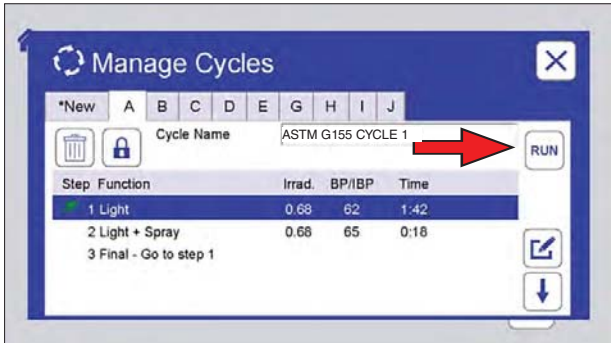
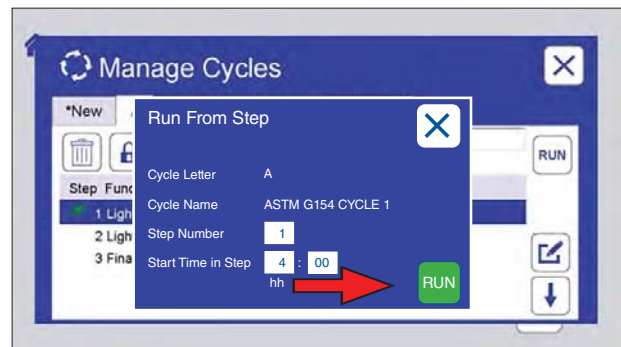

Figure 10.6.8a: A cycle can be run from a specified time in one of its steps. Select the step, then touch the Run icon.
Figure 10.6.8d: Touch the Run icon to run the step from the time entered.
- Run a cycle from any of its steps (Figure 10.6.8a through Figure 10.6.8d).
- The Q-SUN main controller can store ten (10) test cycles.
- A test cycle can consist of up to twenty-five (25) steps.